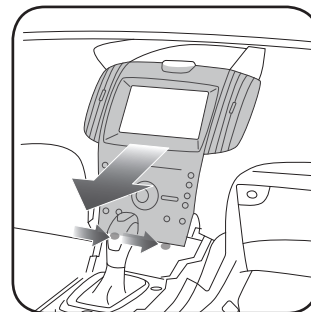

Fig. 1.5
5. Remove two (2) 7mm screws at the bottom of the radio and climate control panel. Carefully unclip and remove the radio and climate control panel, starting from the bottom (air vents are fragile). Unplug the connectors. (Fig. 1.5)